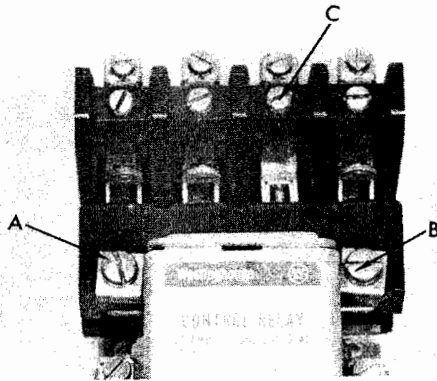

Figure 1. Unmodified Relay
1. Refer to figure 1, remove screws "A" and "B" that secure the contact assembly to the relay.
3. Refer to figure 1, remove screw "C" which retains the forward fixed contact. Remove the contact.
4. Remove screw "D", located on top of relay, not shown in figure 1, which retains the spring loaded contact.